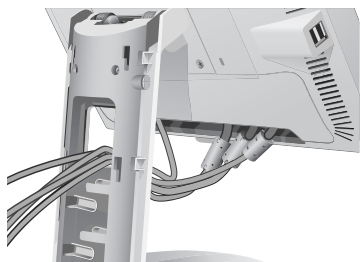

Figure C.4
6. Place the connector cover onto the back cabinet (**Figure C.4**).